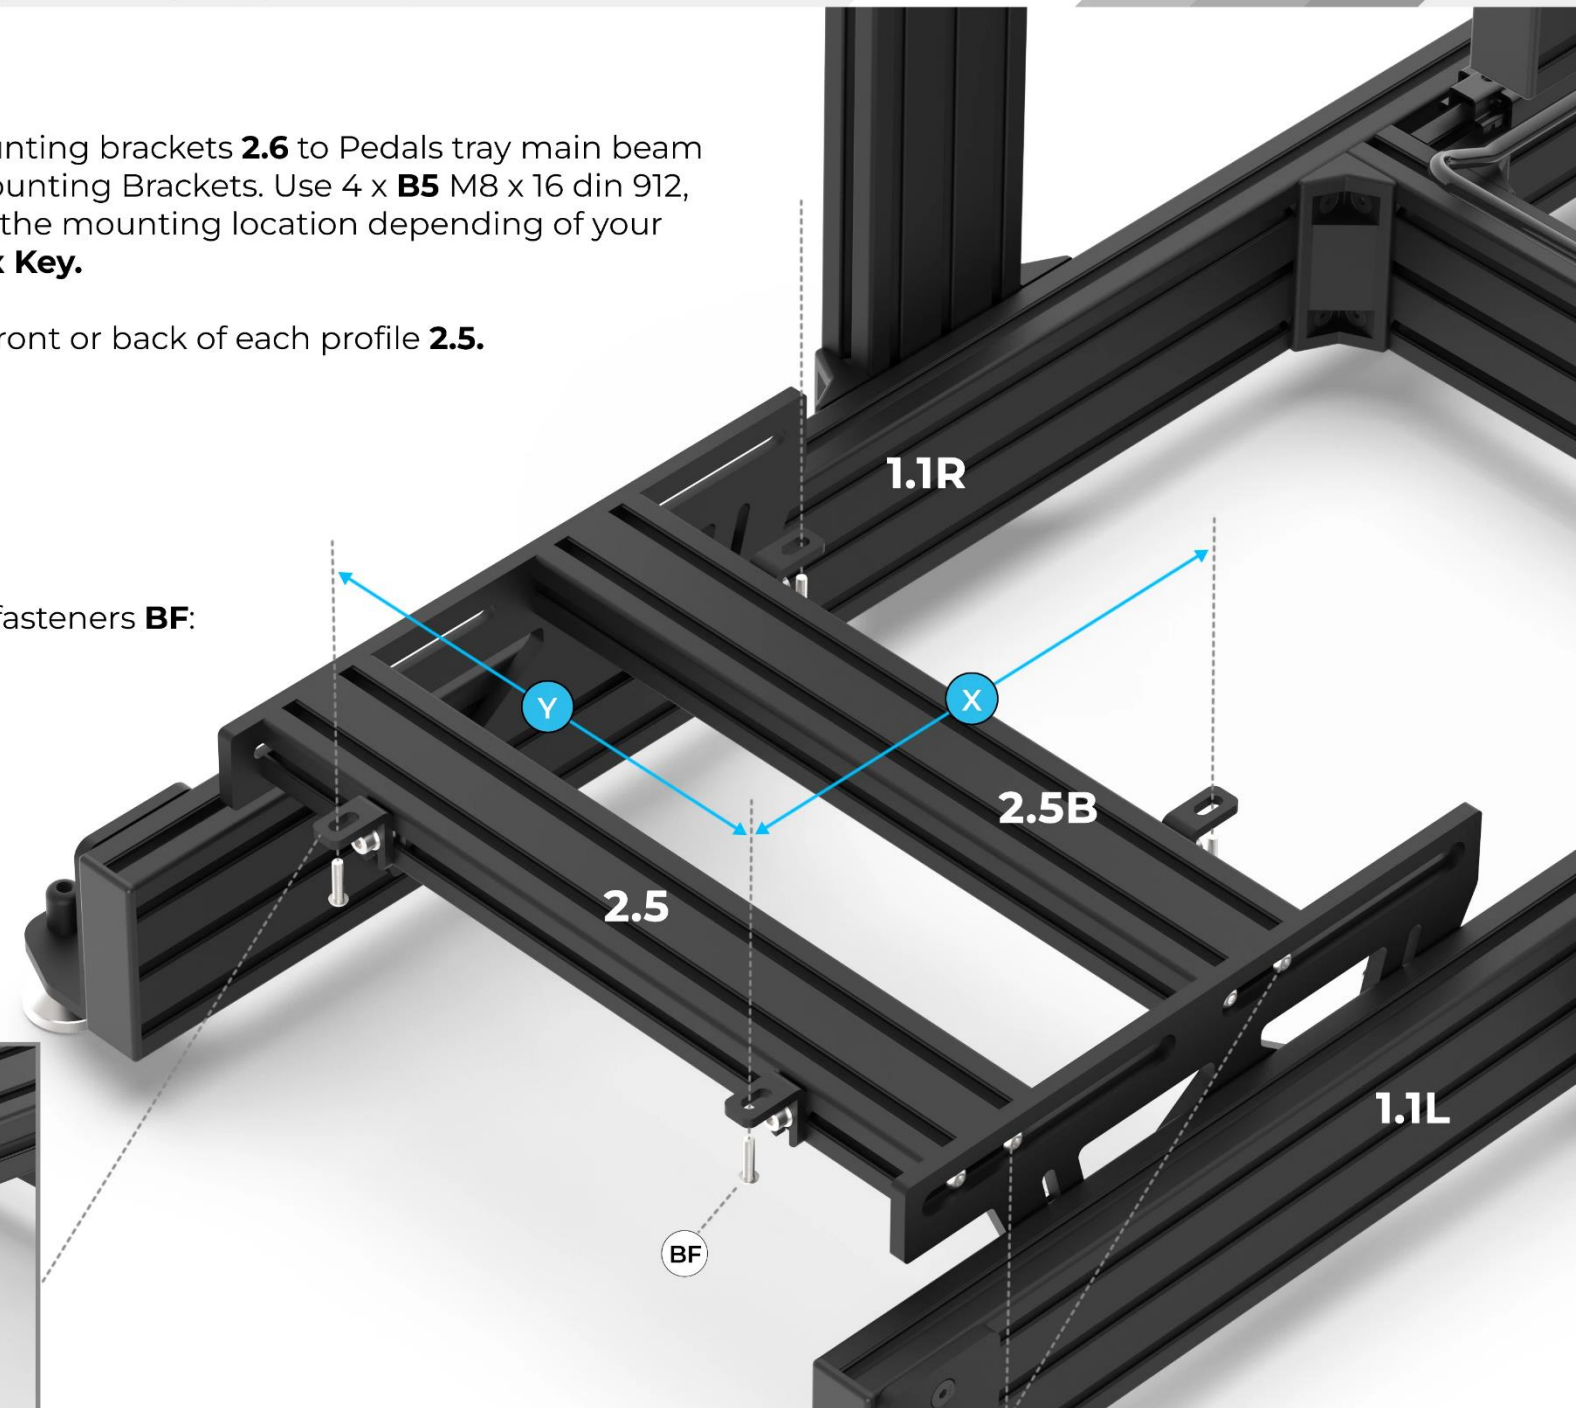

Fig 1.1
Step 4.32 Connect Pedals bottom mounting brackets **2.6** to Pedals tray main beam supports **2.5** and **2.5B**. Install 4 x **2.6** mounting Brackets. Use 4 x **B5** M8 x 16 din 912, 4 x SN T-Slot Nut M8 (see fig 1.1). Locate the mounting location depending of your pedals mounting pattern. Use **No.6 Hex Key**.